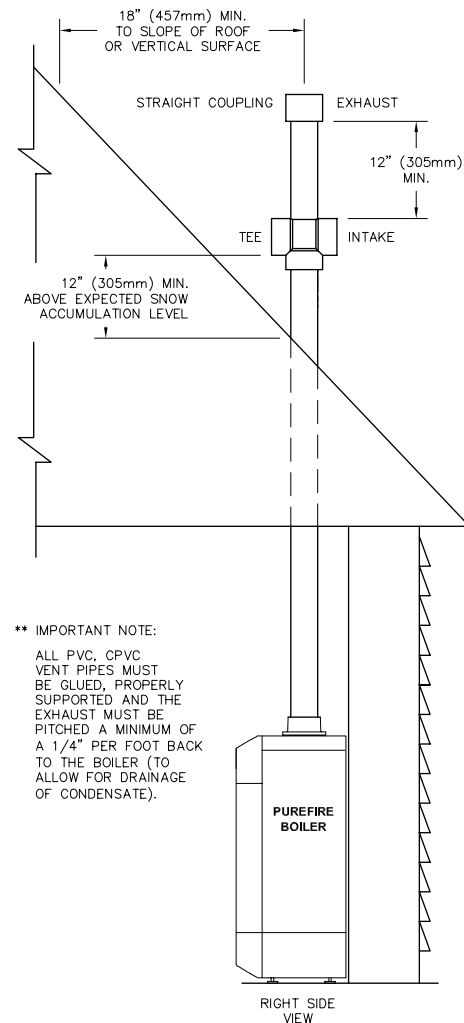

Figure 3.8: Standard Vertical Vent Installation
- a. Figure 3.8 shows the approved venting configuration for vertical venting using the standard fittings supplied.
- Refer to Figures 3.8 through 3.12 for vertical venting options using PVC or CPVC pipe.